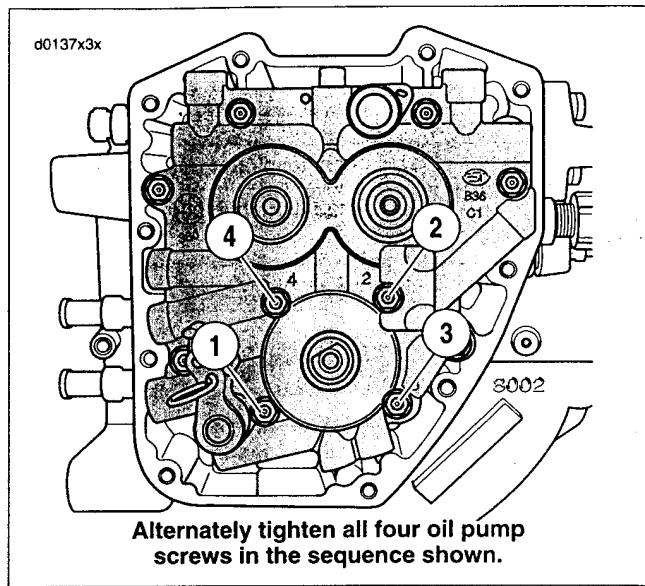

Figure 3-69. Oil Pump Torque Sequence
7. See Figure 3-69. Install oil pump.